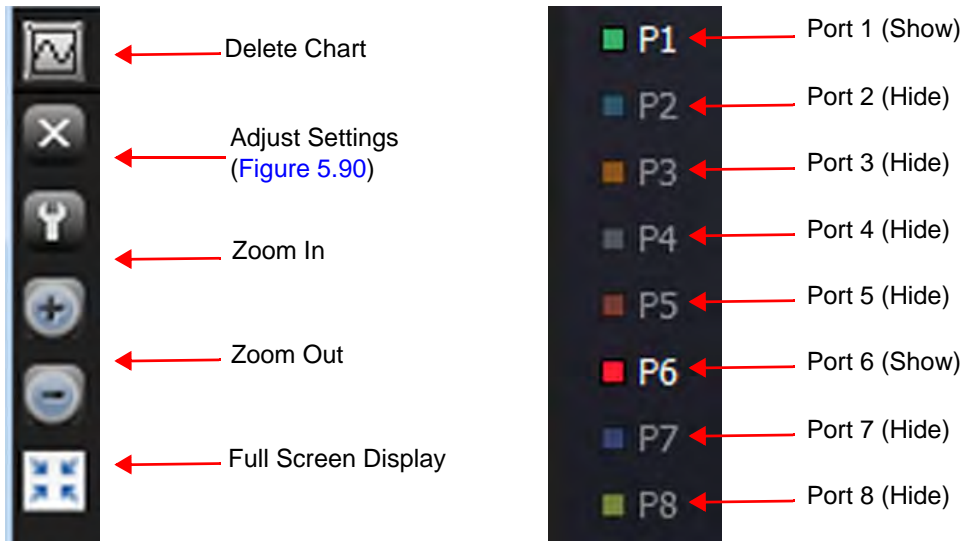

Figure 5.89: Controls for Bus Utilization View (2)
- Delete Chart Setting (Delete display Error Count or Link Utilization or both; see Figure 5.89.)
- Zoom In (Ctrl + Mouse wheel, see Figure 5.89.)
- Zoom Out (Ctrl + Mouse wheel, see Figure 5.89.)
- Fit to Screen (Full view of Trace, see Figure 5.89.)
- Show or Hide Ports (Show/Hide Port1 – Port8, see Figure 5.89.)